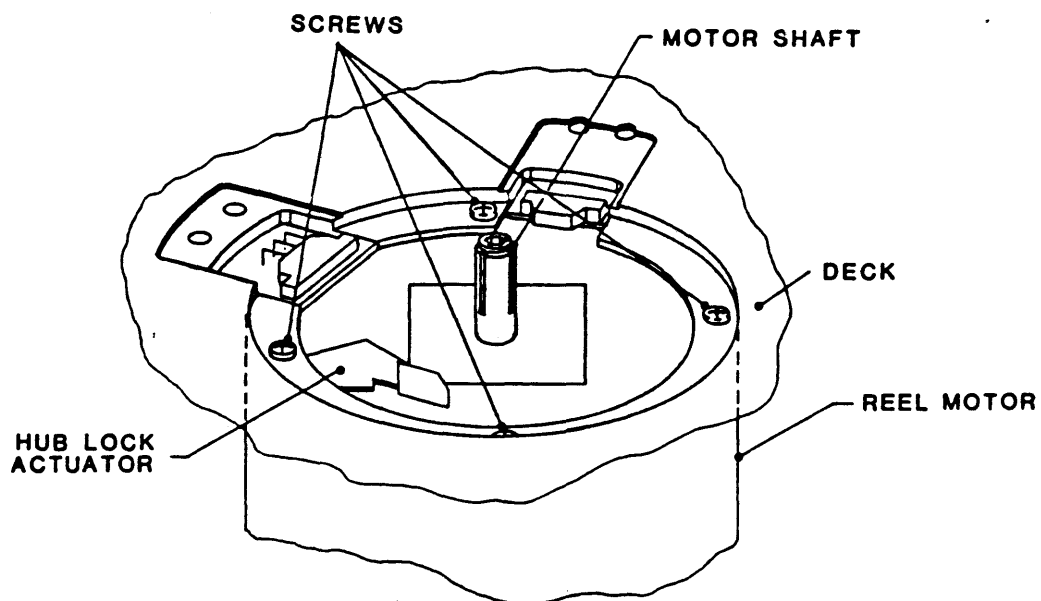

**Figure 4-23 Vacuum Motor Assembly**
**4.3.28 VACUUM MOTOR ASSEMBLY (Figure 4-23)**